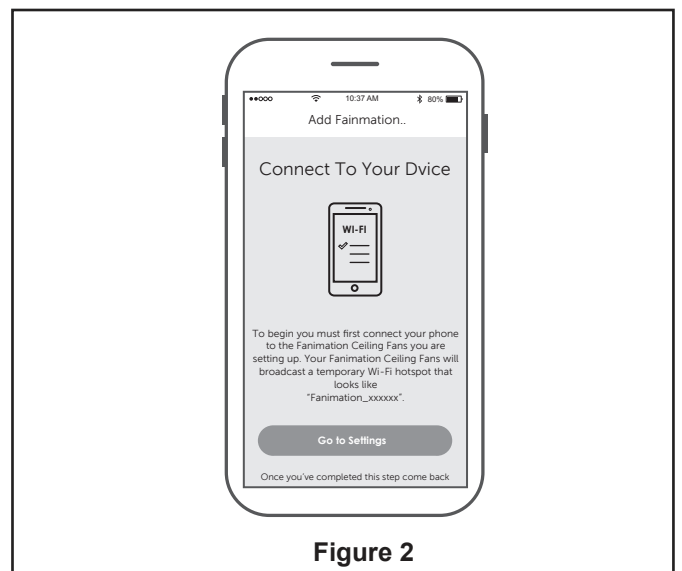

Figure 2
- 2. At this stage, your ceiling fan WiFi receiver should be installed and within range of your WiFi router. With the APP open, select "add device". (Figure 2)